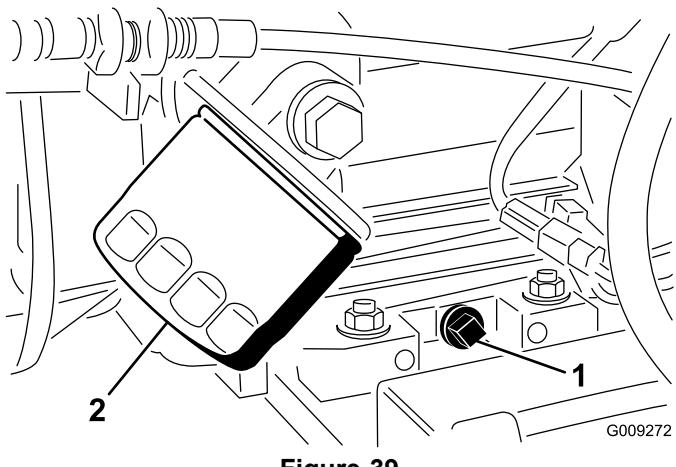

Figure 39
2. Remove the drain plug and let oil flow into a drain pan (Figure 39). When the oil stops, install the drain plug.
3. Remove the oil filter (Figure 39).